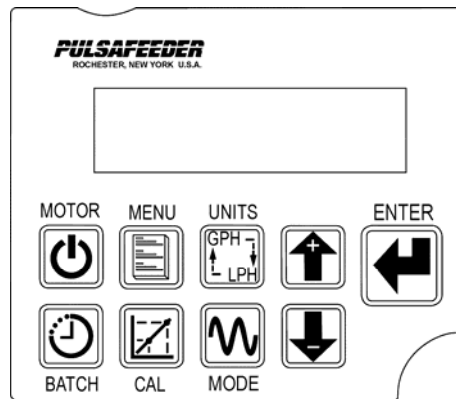

Figure 13 – Keypad
The Keypad is a sealed 9-button membrane style input device. It is easy to use and will guide you quickly to specific functions. Please take a few moments to familiarize yourself with the function of each key before starting (also, see Figure 13):
1. Apply power to the unit. Wait for the {SELF-TEST} display to disappear. The unit should display a standard power on screen (refer to *Figure 13*).